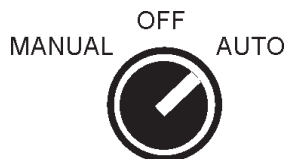

Figure 11. Manual-Off-Auto SW. (Auto Position)
5. To operate the pump automatically (float switches), place the 3-position operation switch in the **AUTO** position (Figure 11).